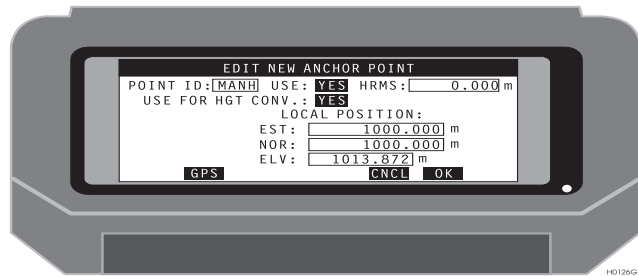

Figure 2.44. Edit New Anchor Point (Local) Screen
- To enter a new point to the definition list, use the Edit New Anchor Point (local) screen (Figure 2.44).